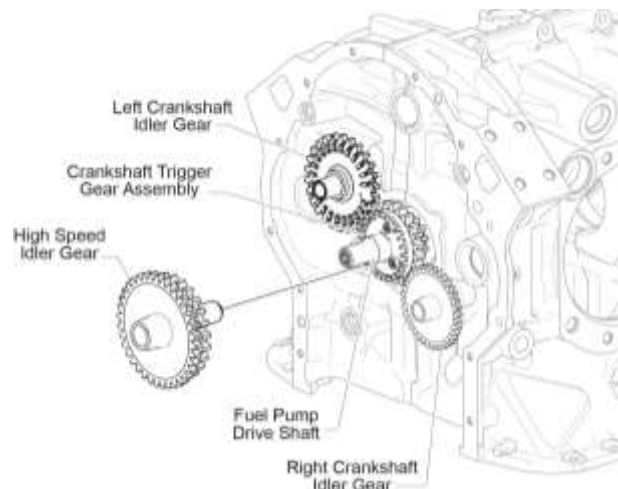

Figure 110
- P. Apply a liberal amount of engine oil to the high-speed gear pilot and install the gear in the crankcase. Make sure the teeth of the high-speed idler gear engage correctly with crankshaft trigger gear assembly (Figure 110).